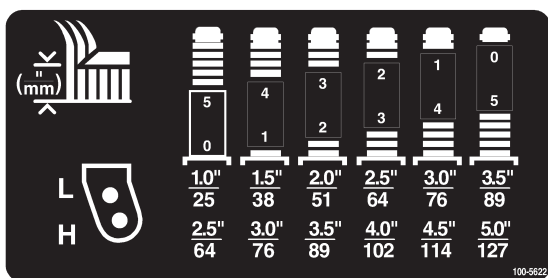

Figure 7
2. Position the castor wheel axles in the same holes in both castor forks. Refer to figure 7 to determine the correct holes for the setting.
Refer to figure 7 to determine the combinations of spacers for the setting.